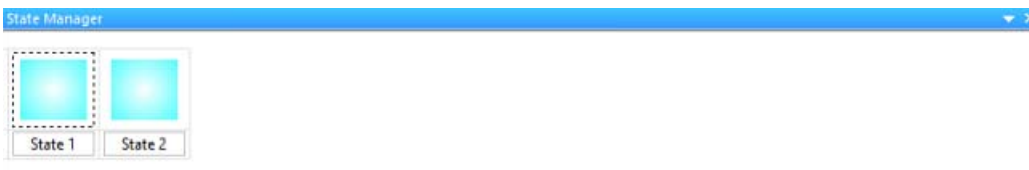

FIG. 318 State Manager window - multi-state button with 2 states
1. Select (or create a new) multi-state button (FIG. 318):